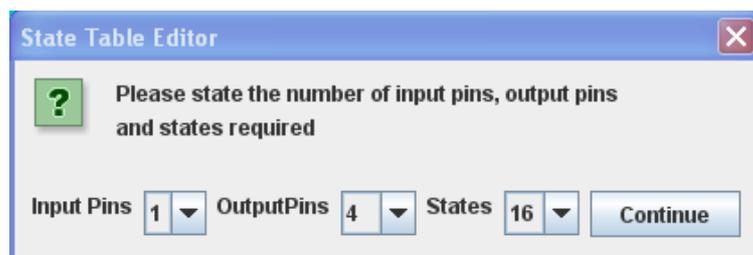

Figure 16: initial input pin, output pin and state selection
This will open the initial State Table Editor window allowing the user to specify the required number of inputs, outputs and states using the associated pull down boxes, as shown in figure 16. The maximum number of inputs, outputs and states is currently limited to 8, 16 and 16 respectively, in this example 1 input, 4 outputs and 16 states have been selected. Note, any combination of inputs and outputs are allowed. Where required 'not connected' (NC) pins will be automatically inserted to pad out unused pin positions within the package foot print.